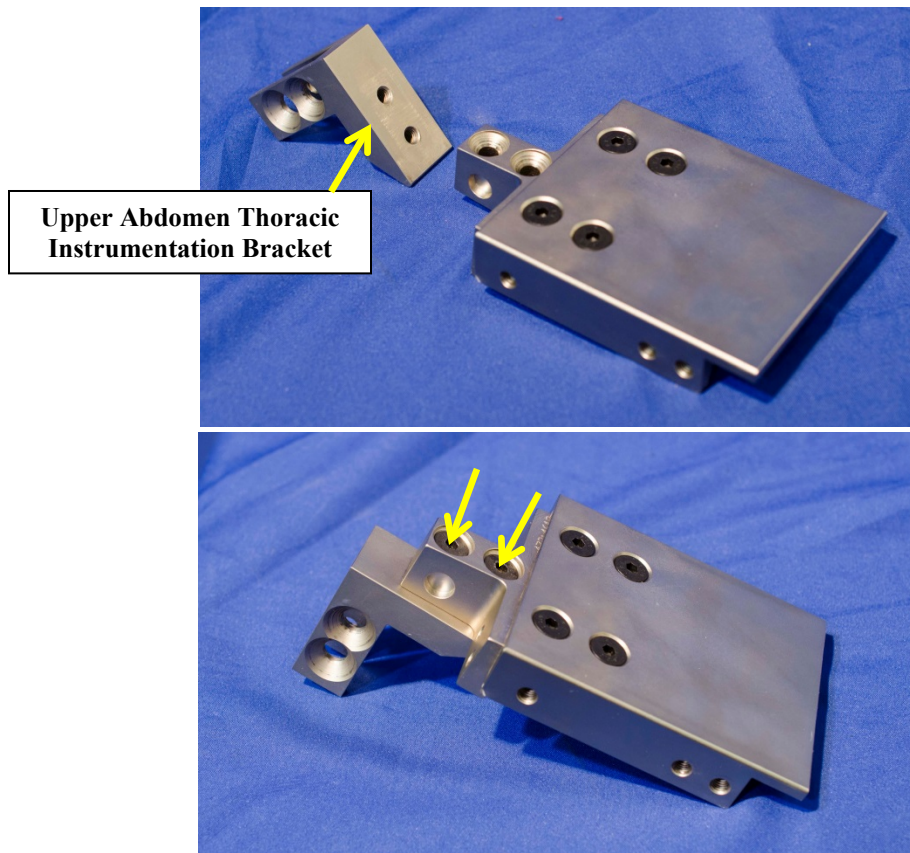

Figure 8-14. Spinal Mount Bracket Assembly
- 8.2.2.9 Secure the Upper Abdomen Thoracic Instrumentation Bracket to the Thoracic Instrumentation Bracket Base Plate using two M6 X 1 X 30 FHCS (Figure 8-14).